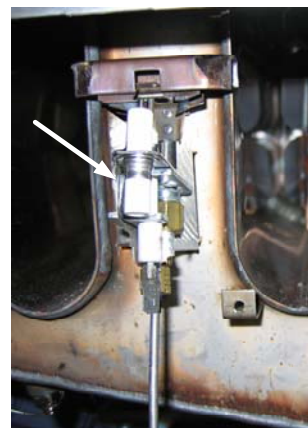

Figure 2: Secure pilot assembly to pot with screw.
2. Mount the pilot assembly to the frypot (Figure 2).